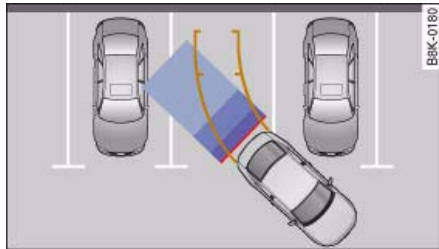
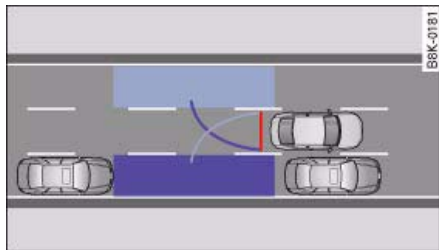
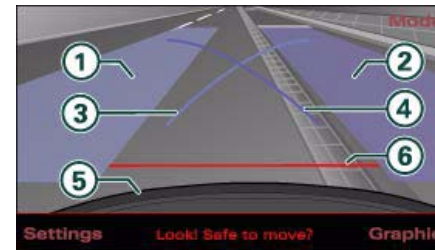

Fig. 156 Viewed from above: Parking mode 1
Fig. 157 Viewed from above: Parking mode 2
Fig. 162 MMI display: Blue area marking aligned in parking space
The mirrored image of the picture supplied by the reversing camera ⇒ *page 145*, fig. 160 is shown in the MMI display. The picture supplied by the reversing camera also includes orientation lines and area markings which are projected onto the image to assist you when parking ⇒ *page 143*. The red line in the picture ⇒ *page 143*, fig. 156 ⇒ *page 143*, fig. 157 shows the collision zone. From here at the latest, the driver should not reverse any further ⇒ .
"Parking mode 1" ⇒ fig. 156 can, for example, be used when parking your vehicle in a carport or a garage ⇒ *page 145*.
"Parking mode 2" ⇒ fig. 157 can be used, for example, when parking your vehicle at the roadside ⇒ *page 146*.
Orientation lines and area markings (⇒ *page 145*, fig. 160 and ⇒ *page 146*, fig. 162) are also projected onto the reversing camera images. They differ, depending on the parking mode you have selected. These orientation markings are intended to assist the driver when parking and manoeuvring in tight spaces. They are projected onto the image at road surface level (not on a gradient).
- Position your vehicle parallel to the roadside, about a metre away from the next parked vehicle ⇒ *page 143*, fig. 157. If you are parking next to obstacles please observe ⇒ *page 150*.
- Press the control button for **Mode A** ⇒ page 145, fig. 161. "Parking mode 2" ⇒ fig. 162 will appear in the MMI display.
- Reverse and align the position of your vehicle in such a way that the dark blue area marking ② ⇒ fig. 162 borders onto the vehicle behind or onto the parking space line marking. If you are *not* parking next to obstacles ⇒ page 150 the long side of the dark blue marking should border onto the kerb. The complete dark blue area marking must fit into the parking space ⇒ page 143, fig. 157.